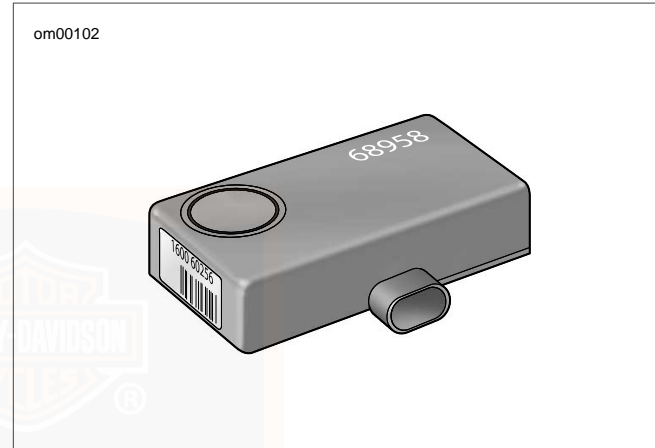

Figure 23. Siren
- See Figure 23. If the siren is armed and the internal siren battery is dead, shorted, disconnected, or has been charging for a period longer than 24 hours, the siren will respond with three chirps on arming instead of two.